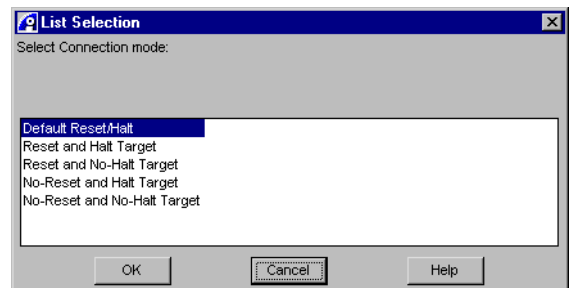

Figure 2-10 Connect Mode selection box
2. Select **Connect (Defining Mode)...** to display the Connect Mode selection box shown in Figure 2-10.